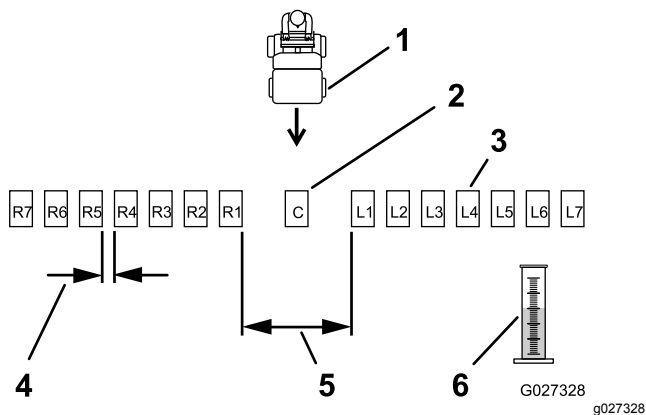
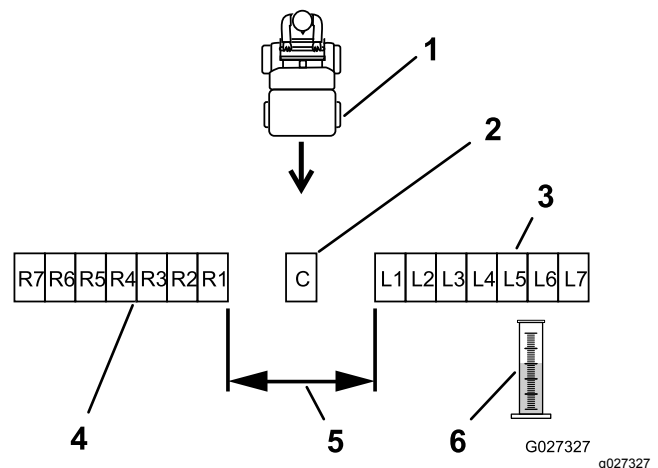

Figure 28
Figure 29
- Place the remaining pans in a straight line as shown in Figure 28 or Figure 29.
Space 6 additional pans, on each side, 12 inches (30 cm) apart (Figure 28).
Place 6 additional pans, on each side, with no gap in between each pan (Figure 29).
6. Label each graduated measuring cylinder to correspond with the distribution pans (such as L2, L1, Center, R1, R2); refer to Figure 28 and Figure 29.